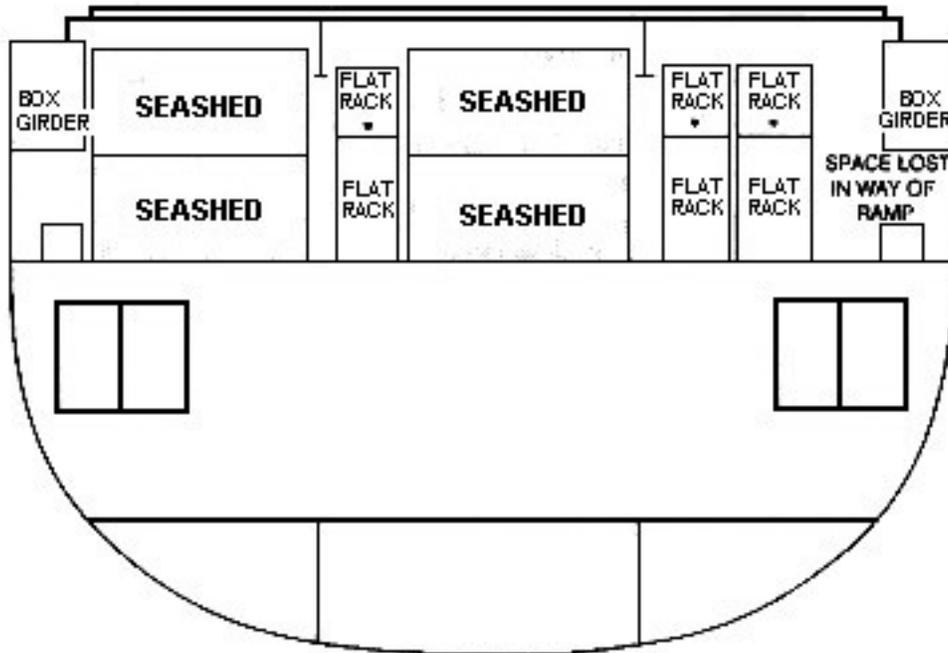

Figure 3-48
3. Lower the work through floor (see Figure 3-48).